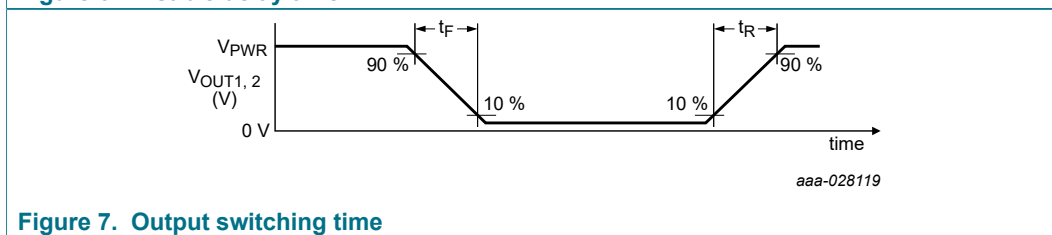

Figure 7. Output switching time
- [8] Rise time is from the 10 % to the 90 % level and fall time is from the 90 % to the 10 % level of the output signal with  $V_{\text{PWR}} = 14 \text{ V}$ ,  $R_{\text{LOAD}} = 3.0 \Omega$ . See Figure 7.